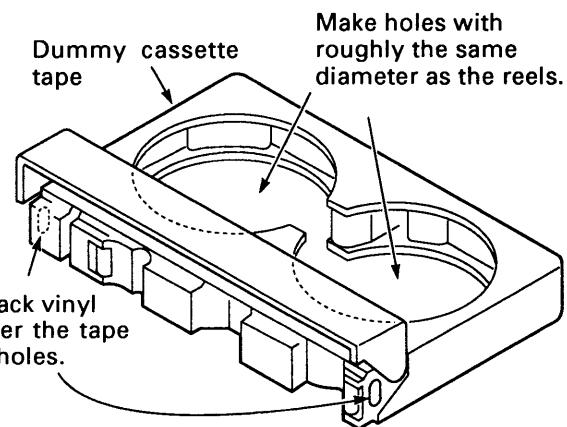

Fig.4-1-2
- If the mechanism cannot be put into PLAY, FF or REW mode by the method described in 1) above, make a dummy cassette tape, as shown in Fig.4-1-2. The dummy cassette tape is made as follows: Unscrew the five screws on the underside, remove the reels, leaf springs and other parts on the supply and take up sides, make holes in the upper surface as wide as the reel diameter, then assemble the parts.